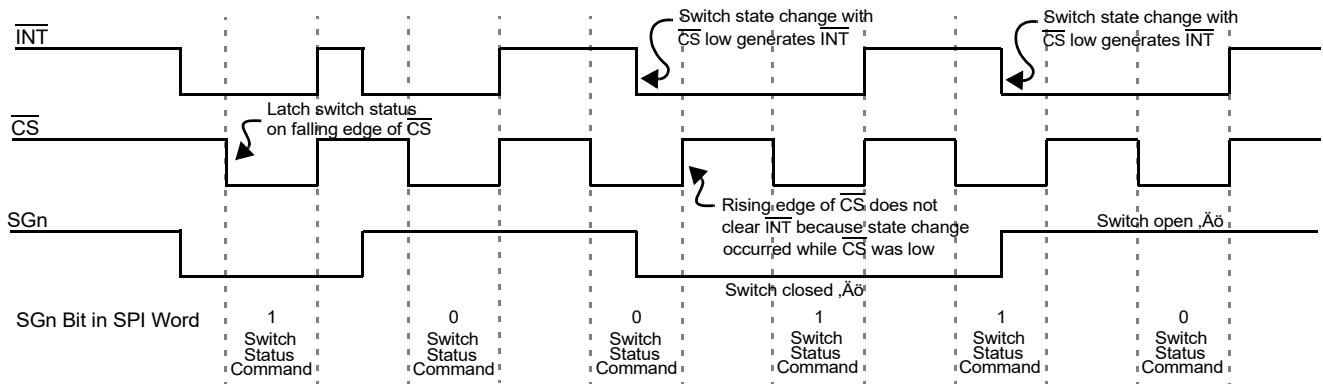

Figure 6. Normal Mode Interrupt Operation
2.  $\overline{INT}$  pin is reset to logic [1], except when additional switch changes occur during  $\overline{CS}$  low (see Figure 6, page 11).